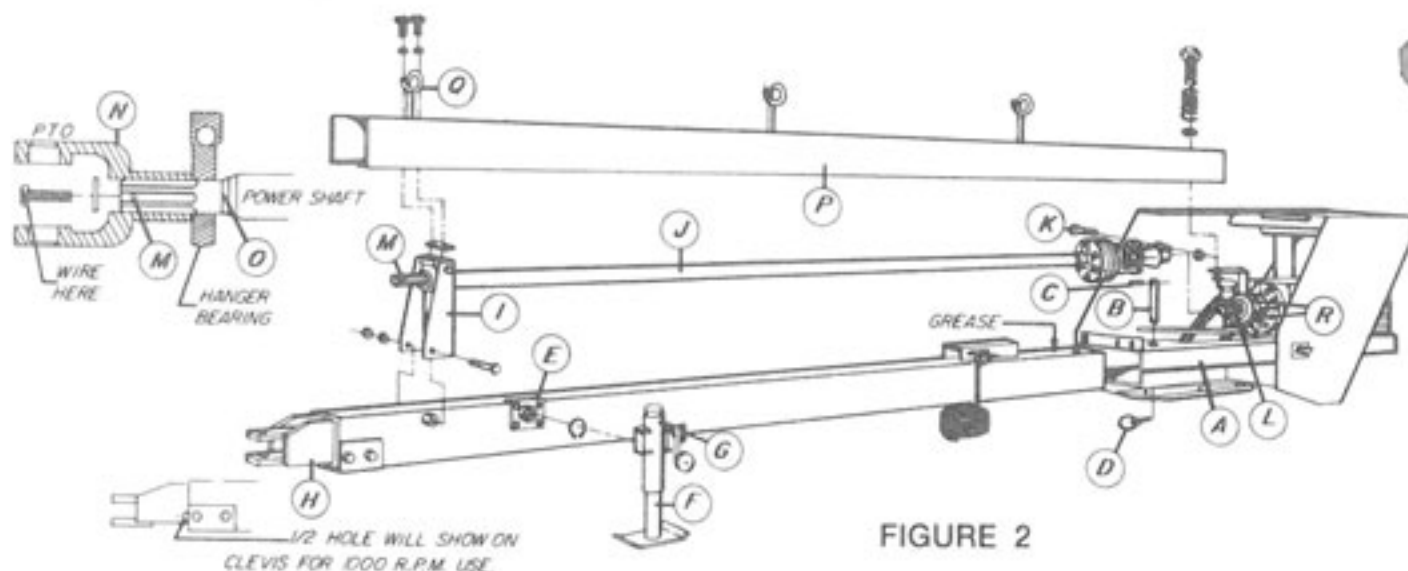

FIGURE 2
(See Figure 2)
**STEP No. 1** — Grease area shown in figure 2. Slide the Pole into the Floating Frame (A). Align the hole in the Floating Frame with the one in the Pole and secure with 1" x 8-1/8" Pole Pin (B). Fasten with 1/4" Klick Pin (D).
**STEP No. 2** — Slip the Jack (F) onto plate (E). Place the snap ring firmly in the groove all around. Jack can now be lowered using Handle (G).
**STEP No. 3** — For 540 RPM, the adjustable Clevis (H) should be in the inner most position. For 1000 RPM the Clevis should be moved 1" to the outer most position. (See Detail.)